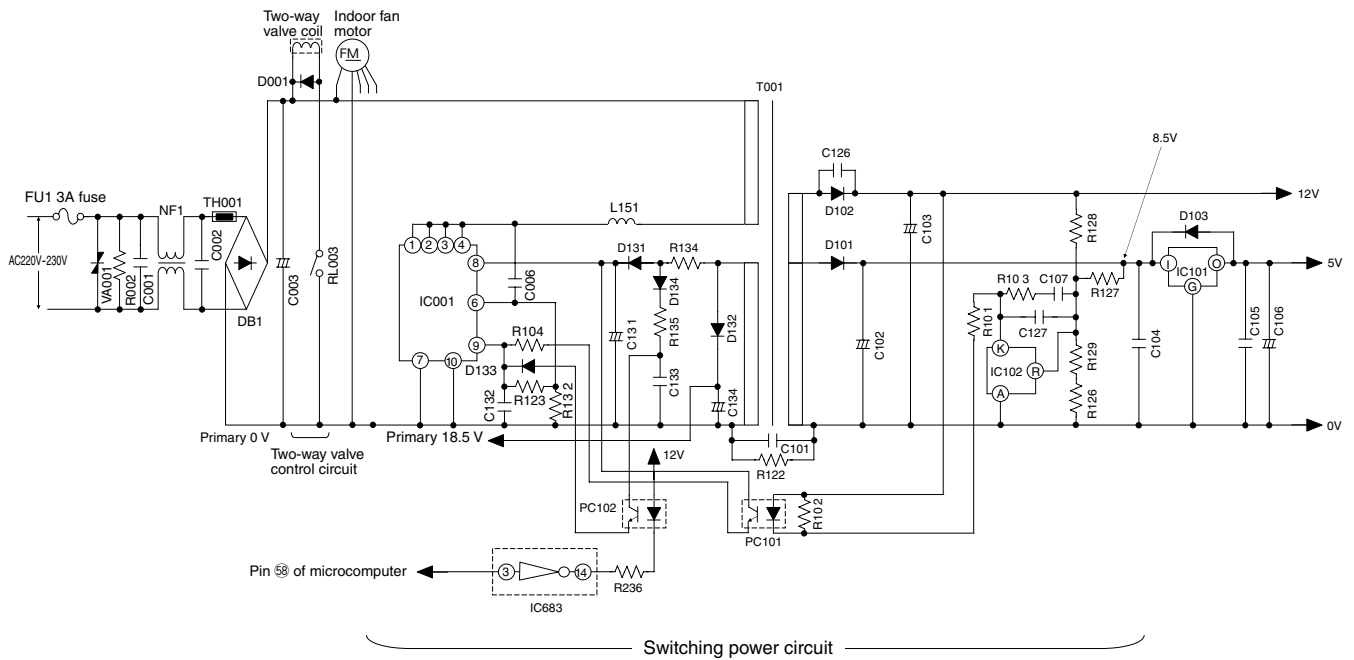

Fig. 2-1
- The switching power circuit, as controlled by IC001, drives the primary winding of the transformer (T001) to produce a specified voltage at the output winding. [The output terminal (pin ①) of IC001 has a switching voltage as shown in Fig. 2-1 but it changes in voltage peak and oscillation period depending on the power load. While on standby for a remote control signal, in particular, the oscillation frequency is lowered to a level as low as 20 kHz or so to reduce the standby power.]